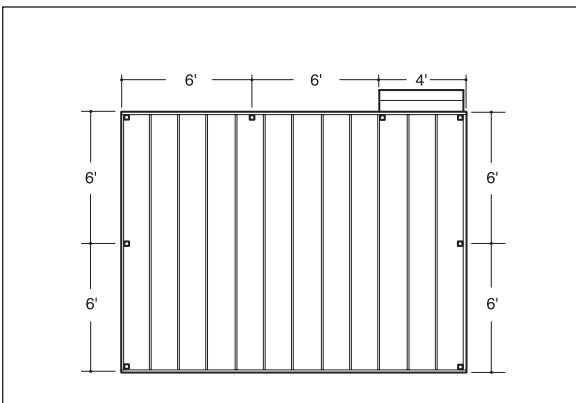

Figure 2
**Step 1** Determine the number of railing posts needed for your deck. Post spacing is 6' on-center. Example: A 12x16 deck attached to a building with a 4' access opening on one side will require a total of eight posts (**Figure 2**).